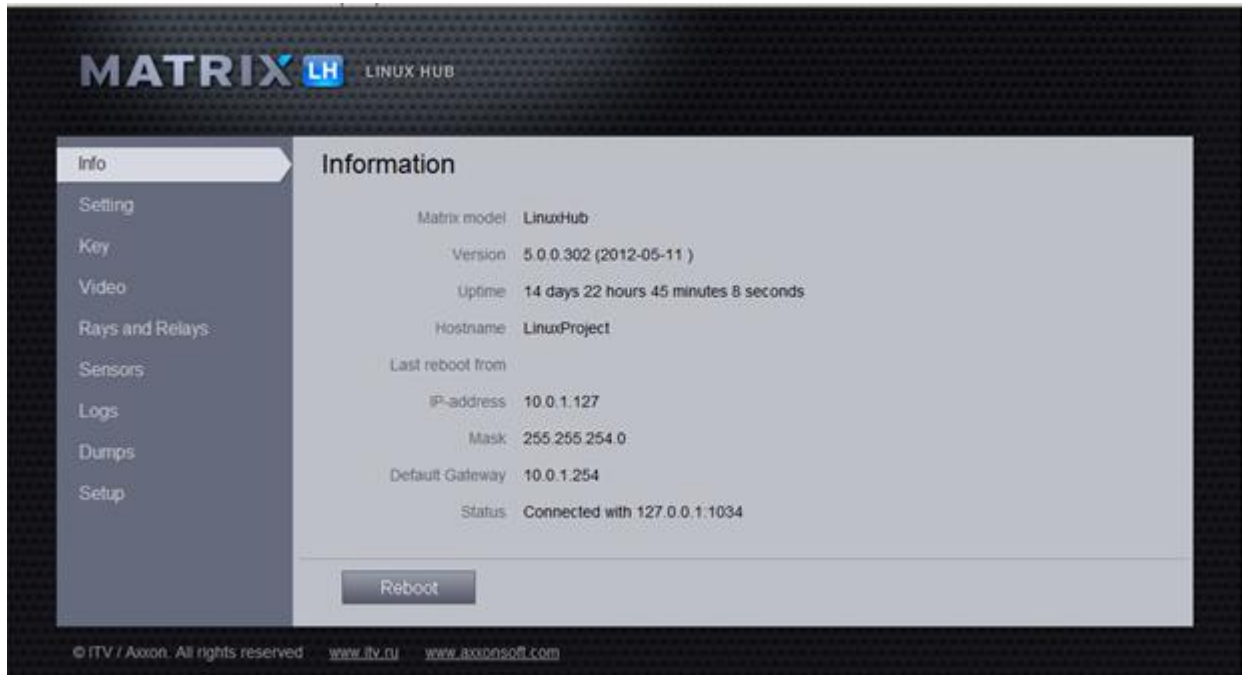

Figure 7.3-1 The LS (LH) Web interface home page (Info tab)
- Viewing video received from the cameras connected to the LS (LH);
- Monitoring the LS (LH) operability;
- Configuration of the LS (LH) network parameters;
4. Resetting the LS (LH) configuration;
5. Updating the LS (LH) firmware;
6. Downloading the activation key to the LS (LH).
To open the LS (LH) Web interface, enter the IP-address of the required LS (LH) into the address line of the browser. The Web interface home page will load (Figure 7.3-1).